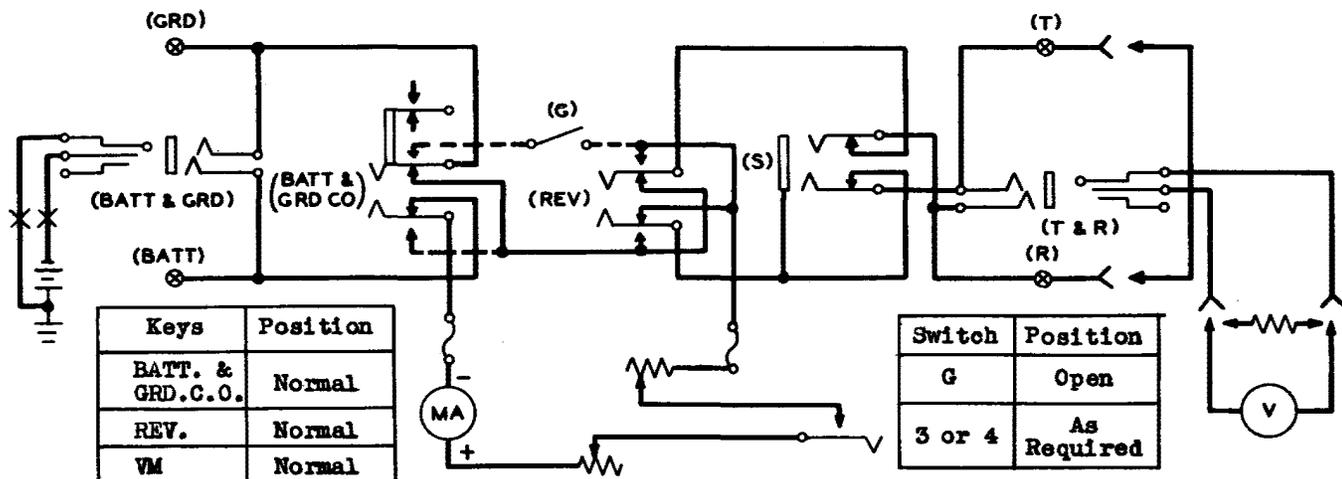

Fig. 1 - Illustrating Connections to No. 35C or No. 35D Test Set
(a) Connect the 5000 ohm resistance to the T & R jack with a W2W cord (See Fig. 1). Operate the short circuiting switch of either the No. 1 or No. 2 telegraph key, shift the sliders of the associated rheostat to the extreme left so as to have no resistance in the rheostat and operate the 15 MIL-AMPS key. The reading on the 0-75 scale is the battery voltage. Disconnect the 5000 ohm resistance and proceed in accordance with 3.03.
(b) Connect the voltmeter to the T & R jack with a W2W cord (See Fig. 1). Operate the short-circuiting switch of either the No. 1 or No. 2 telegraph key and shift the associated sliders of the rheostat to the extreme left so as to have no resistance in the rheostat. Read the battery voltage. Disconnect the voltmeter and proceed in accordance with 3.03.
3.03 Immediately after measuring the voltage, shift all the sliders of the rheostat to the extreme right so as to introduce some resistance in the circuit. Short circuit the T & R binding posts of the test set. (See Fig. 1).